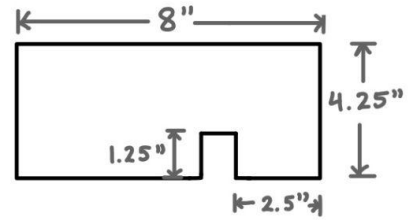

Figure 2: Cardboard Base Side Wall (2)
5. Place the circuit and Arduino into the base mount with the A to B USB Cable going through the hole in the *base side wall (2)* (**refer to Figure 2**). Place the